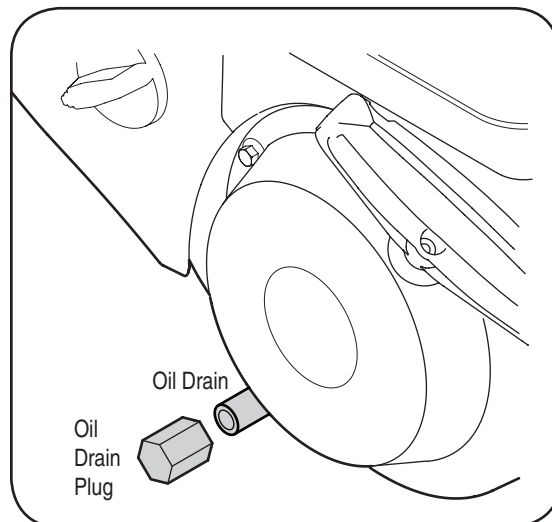

Figure 3-1: Remove the oil drain plug to drain oil from engine.
3. Remove oil drain plug, Figure 3-1.